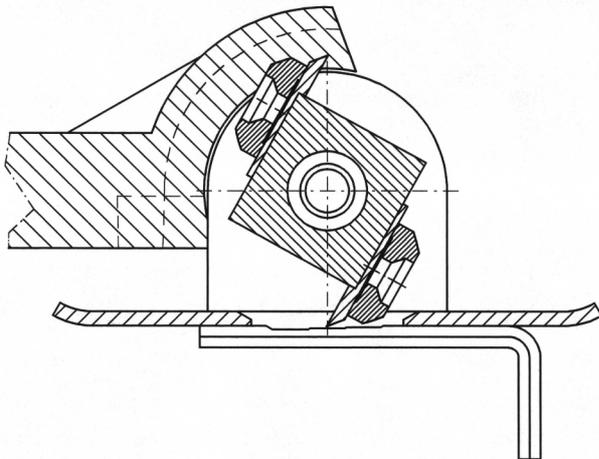

Figure 17
- Set the key (12) with the notches to the knife cylinder (03) facing the guiding plate (19) as in the figure 17.
- Make contact between the knife (09) and key (19) at the desired cutting depth between 0.4 and 1.0 mm (see image 3). The cylinder (03) must be positioned so that the knife (09) protrudes maximum through the guiding plate (19). Set the knives (09) so that they protrude max. 1 mm below the guiding plate (19).
- Keep the knives (09) in this position. All 6 knives are set the same way.